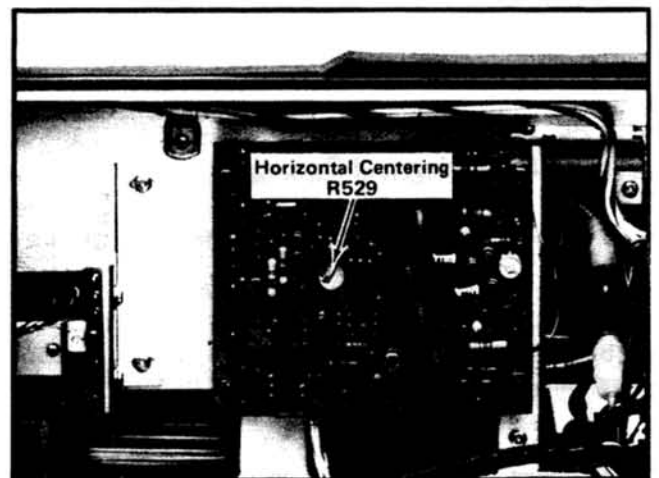

Fig. 5-14. Location of Horizontal Centering adjustment R529.
e. ADJUST—Horizontal Centering adjustment R529 (see Fig. 5-14) to position the trace to the graticule vertical center line.
14. Check/Adjust Horizontal Amplifier Gain and DC Linearity ①